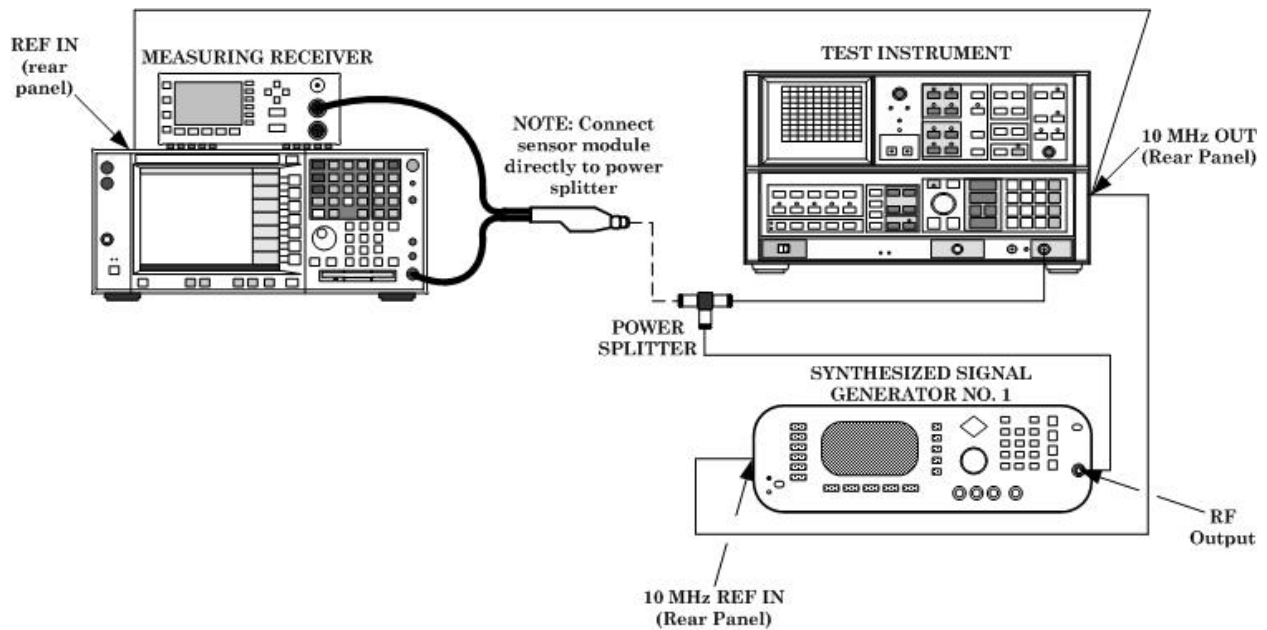

Figure 30. Third order intercept.
- (1) Press TI keys as listed in (a) through (e) below:
- (2) Connect measuring receiver sensor module to measuring receiver power reference output.
- (3) Zero and calibrate the sensor module.
- (4) Connect equipment as shown in figure 30.
- (5) Set synthesized signal generator No. 1 output frequency to 2.0 GHz and an output level of -14 dBm.
- (6) Press TI keys as listed in (a) through (c) below:
- (7) Set up measuring receiver to measure RF power.
- (8) Adjust synthesized signal generator No. 1 output level for a -20.00 ± 0.05 dBm indication on measuring receiver.
- (9) Press TI keys as listed in (a) through (f) below: